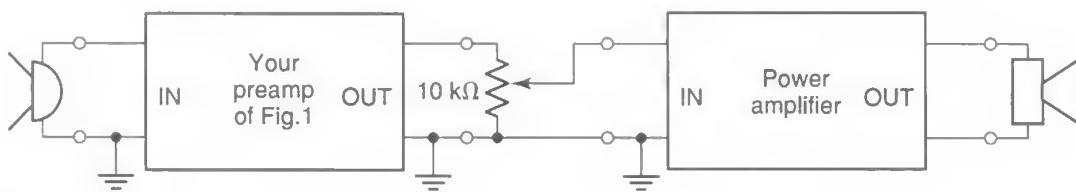

Fig. 3
9. You will now add a *volume control* to your sound system. To do so, you need to take the output of the preamplifier, and *divide down* its voltage by a factor that can be adjustable. The resulting voltage should then be fed to the input of the power amp. You can do this by using a  $10\text{ k}\Omega$  potentiometer as a variable voltage divider, as shown in Fig. 3. (A  $100\text{ k}\Omega$  potentiometer is also acceptable; why is the exact value of the potentiometer resistance not critical?) Try your new system by speaking into the microphone and varying the potentiometer. Does your volume control work?